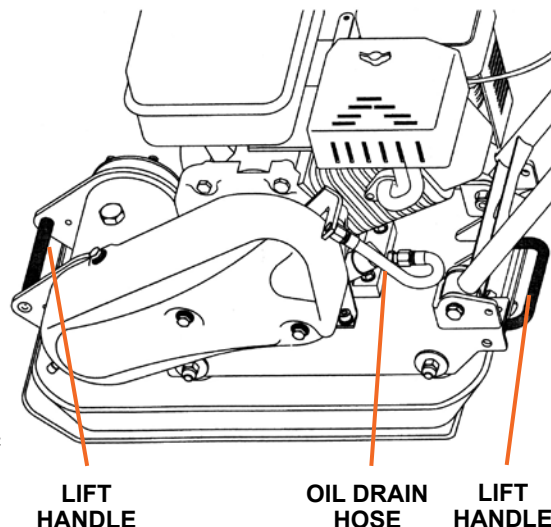

Figure 15
2. Allow the engine to cool down. While the engine is still warm, drain the oil by detaching the flexible oil line hose, tipping the plate compactor slightly on its side and draining the oil into an approved container (see Figure 15).
1. Always allow the engine to cool down before transporting or before short term storage. Use the handles on the front and rear of the plate compactor to lift (see Figure 15).